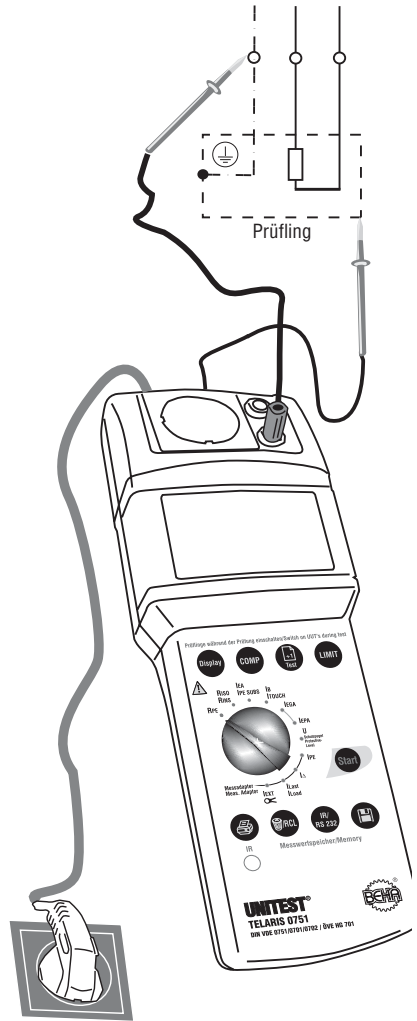

Figure 6.3: Measurement of the PE resistance for appliances not equipped with a mains plug
- ▶ For appliances not equipped with a mains plug, connect the PE connection of the UUT to the blue ‘PE’ socket (5), please refer to Figure 6.3.